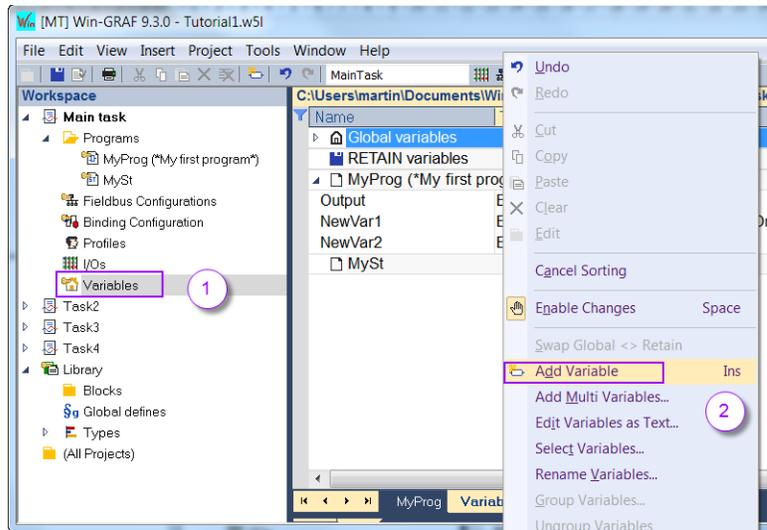

Figure 153: Declare a variable using the variable editor
- Step 2:** Right click the group (Global, Retain, local) and select '*Add Variables*' (Figure 153). An alternative way is to select the group and press the '*Insert*' key on the keyboard. A variable with the name '*NewVar*' of BOOL type is being added to the editor.